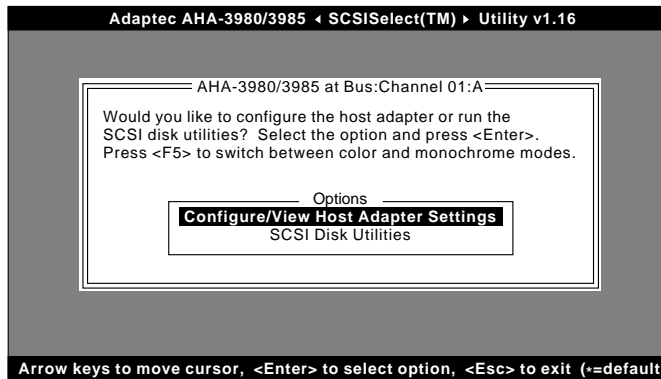

Figure 13-33. Options Menu
- 3 Select the channel you want to configure. The Options menu appears, as shown in Figure 13-33.